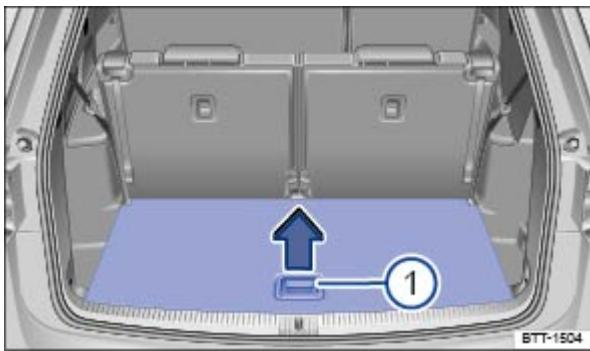

Fig. 156 In the luggage compartment: Opening the luggage compartment floor.
- Grasp the handle in the luggage compartment floor ⇒ Fig. 156① and lift the floor in the direction of the arrow.